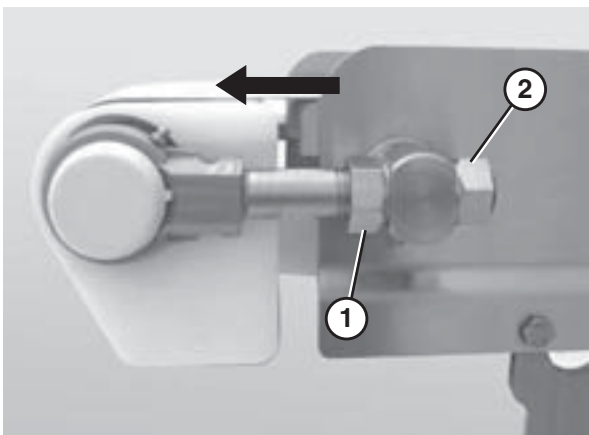

Figure 50
2. Turn the front nuts closest to the tail (Figure 50, item 1) clockwise in order to increase tension on the belt.
3. Tighten the back nuts (Figure 50, item 2) to secure the tail.
1. Loosen the back nut (Figure 50, item 2) on the idler tail shaft that needs to be adjusted.
2. Tighten the front nut (Figure 50, item 1) on the idler tail shaft to adjust the belt tracking.